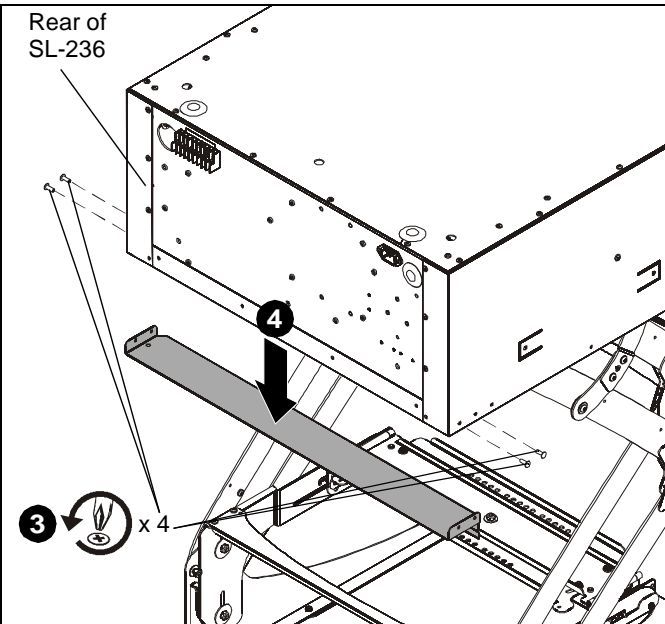

Figure 2
3. Remove four Phillips screws from rear trim piece. (See Figure 2)